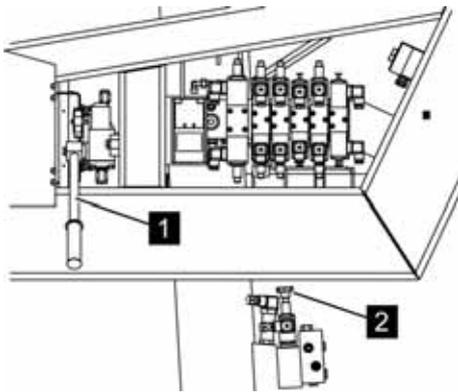

Fig. 98: Hand pump
3. ➤ Put the hand pump lever (Fig. 98/1) on the hand pump.
4. ➤ In order to be able to use the function [Lower telescopic arm], lock the proportional valve (Fig. 98/2).
Activate the desired valve (☞ Chapter 6.16.3 'Valve setting for platform' on page 113) by pressing it in firmly and at the same time pumping with the hand pump (Fig. 98/1) until the selected component has reached the desired position.
8. → After emergency operation, unlock the proportional valve (Fig. 98/2) again if necessary.
- Make sure that the proportional valve (Fig. 98/2) is completely unlocked for normal operation.